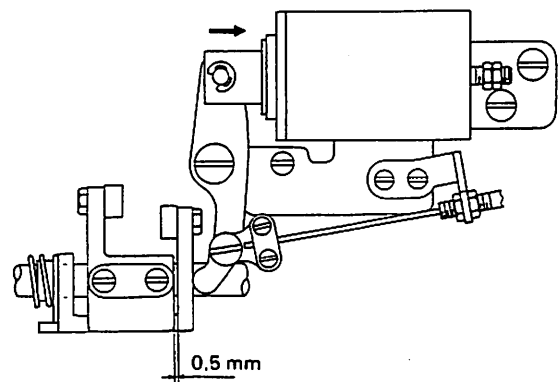

Fig. 8
- ② Install the unit so that approximately 1 mm is provided between the driving lever and cam follower crank (2) with the stopper nut (A) in contact with the solenoid.
- ③ When the solenoid is energized under this condition, clearance of 0.5 mm is provided between the cam follower cranks (1) and (2) as shown in Fig. 8. This is the standard installation status. Make adjustment by moving the solenoid mounting bracket in the arrow direction in Fig. 7.